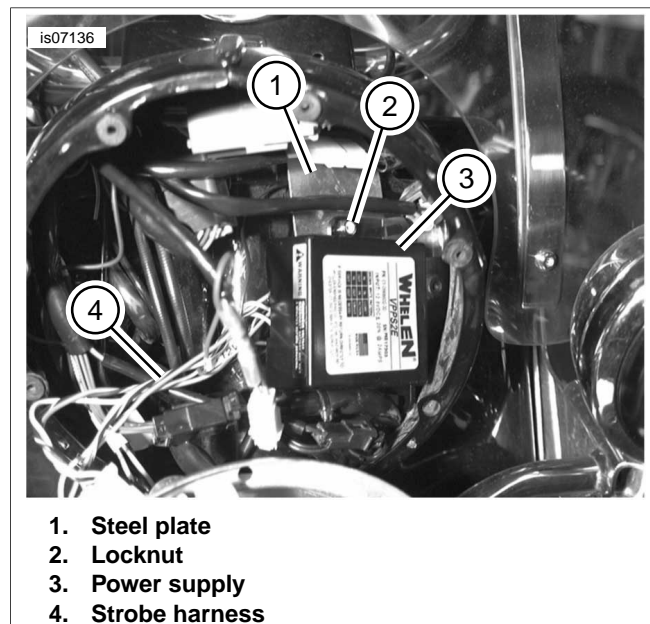

Figure 4. Mount the Strobe Power Supply (2013- Earlier FLHP Models)
1. See Figure 4. Locate the steel plate (1) to which the power supply (3) is mounted. Remove the black plastic fir tree-style wire retainer from the hole in the plate.
2. See Figure 15. Get the power supply (6), screw (9) and locknut (10) from the kit. Position the power supply over the steel plate (see Figure 4). Align the upper power supply mounting hole with the hole in the steel plate.
3. Install the screw up through the steel plate and power supply mount. Install the locknut (2), but do not fully tighten now.
5. Get the ring terminal (7) from the kit. See the service manual appendix to install and crimp the terminal to the end of the black power supply ground wire.